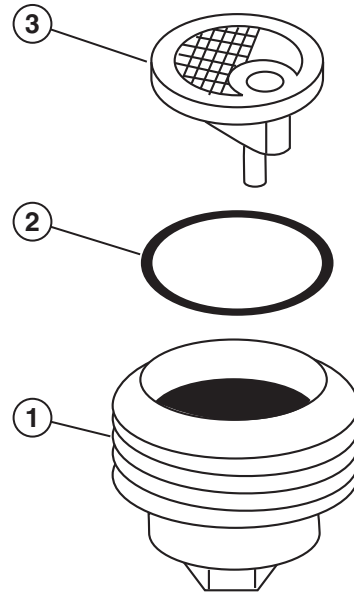

Figure 7-15
5. Clean the sediment bowl, O-ring and screen (see Figure 7-15).